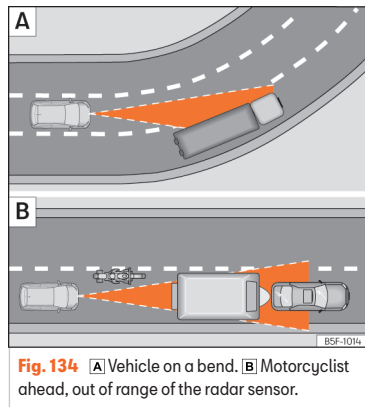

Fig. 134 **A** Vehicle on a bend. **B** Motorcyclist ahead, out of range of the radar sensor.
The ACC may not detect the vehicle in front on a curve, or may regulate the distance from vehicles in other lanes » » » Fig. 134 A.
- Vehicles that are not aligned while driving or that are outside the sensor's detection area, such as motorcycles » » » Fig. 134 B.